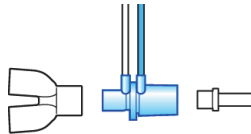

Figure 5-9. Installing the infant flow sensor
1. Insert a flow sensor between the Y-piece of the breathing circuit and the patient connection (Figure 5-9).